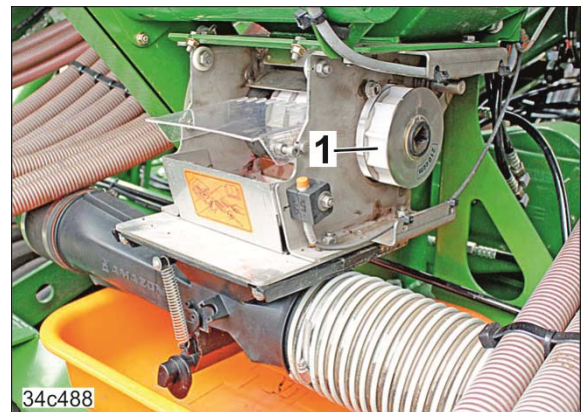

Fig. 182
- 7.5 Pull out the metering roller (Fig. 182/1).